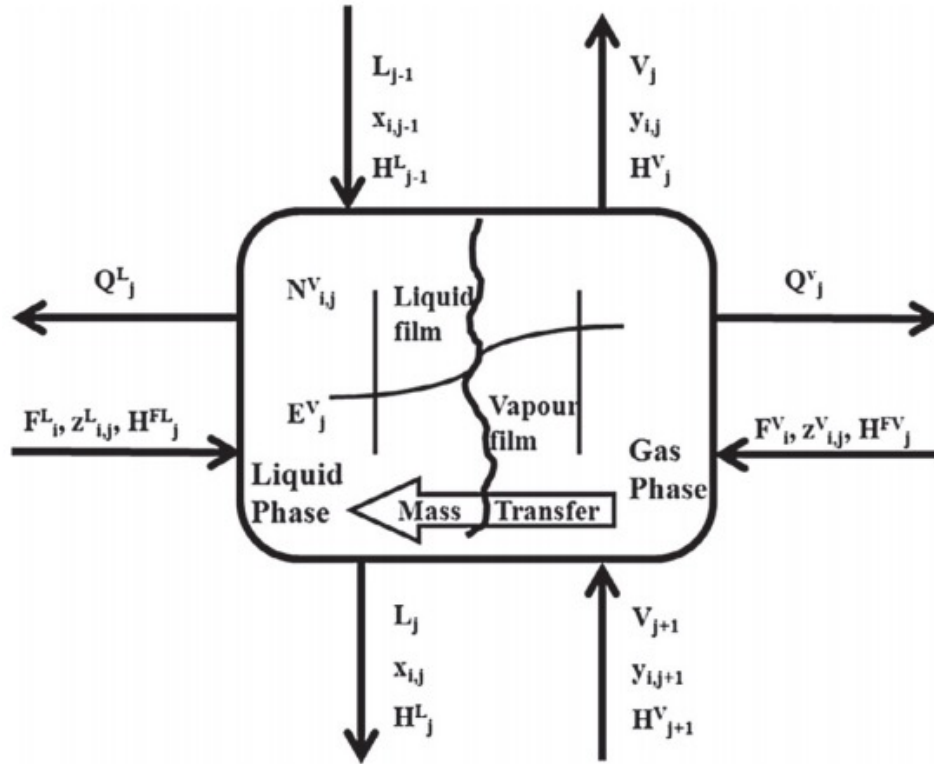

Figure 1: Non-equilibrium stage for vacuum distillation
3. Experimental setup of the batch vacuum distillation under total reflux condition in rotating packed bed (RPB) is shown in Fig. 1. The RPB was packed by wave thread stainless steel wire mesh, with a voidage of 0.95 and a specific surface area of $930 \text{ m}^2/\text{m}^3$, respectively. The inner diameter, outer diameter and the axial height of the rotor were 180, 285 and 310 mm respectively. The rotor speed varied between 275 and 700 rpm, and thus providing 20 - 130 times gravitational force at the arithmetic mean radius.